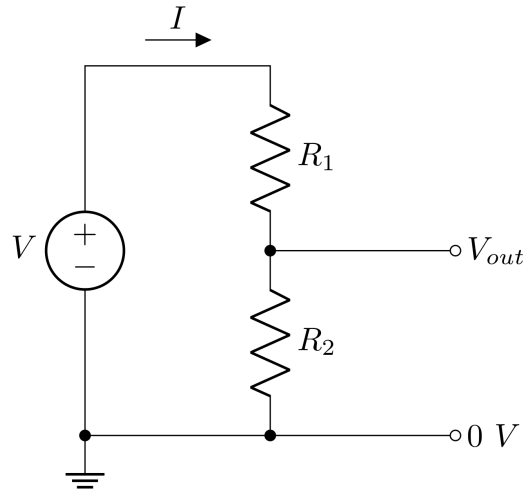

Figure 1: Ideal Voltage Divider
An ideal voltage source (no internal resistance) drives current around the loop of resistors shown in Figure 1 .
1. Draw a modified circuit diagram of Figure 1 to model the non-ideal voltage source as an ideal source with a series resistor.
1. Build a voltage divider similar to the one shown in Fig. 1(a) using resistors of around $1\text{k}\Omega$. Draw a diagram of the circuit in your lab notebook. Make sure to label the resistors and record all measured component values and voltages.